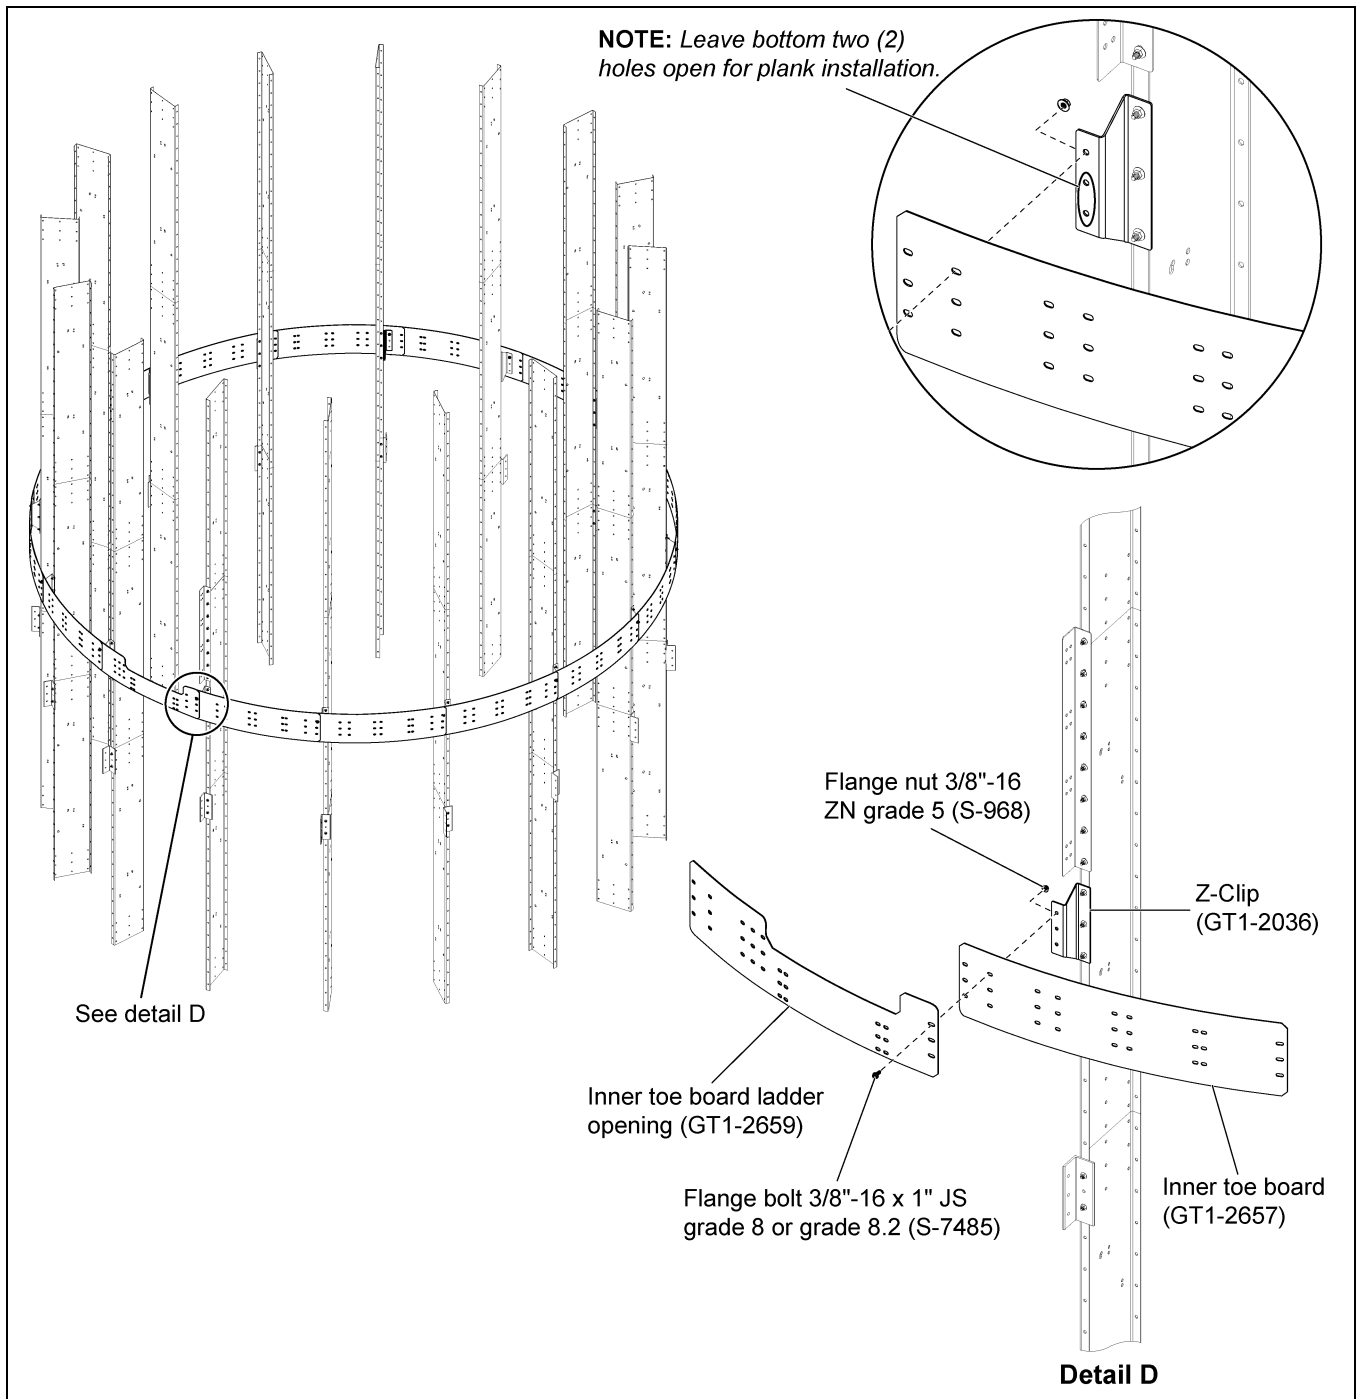
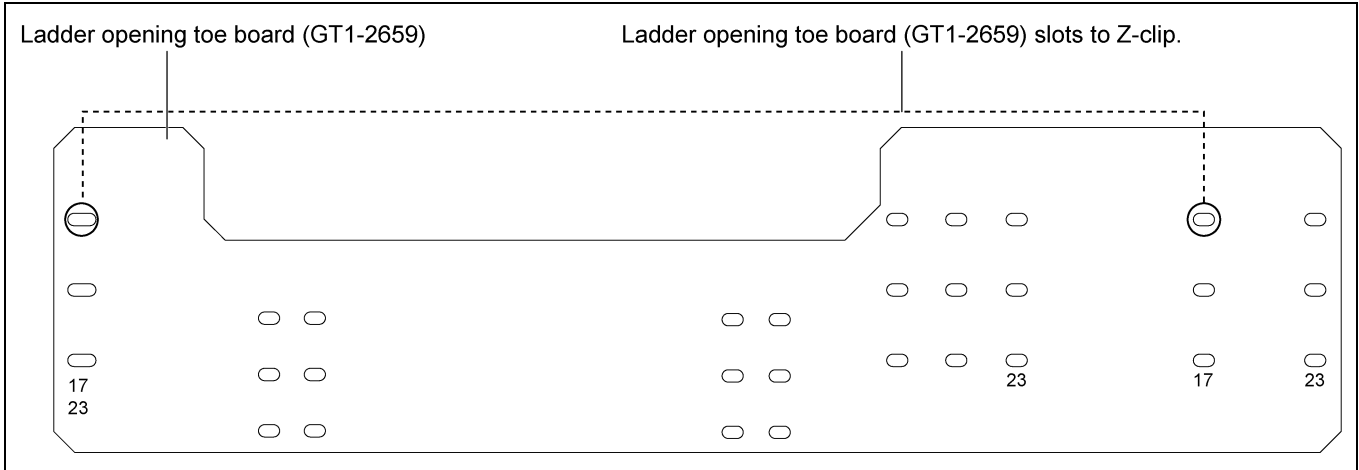

Figure 4G
Figure 4H 17' Ladder Opening Toe Board (GT1-2659)
1. Install the inner toe board (GT1-2657) to the Z-clips (GT1-2036). All toe boards should be installed between the Z-clips using 3/8"-16 x 1" JS grade 8 or grade 8.2 bolts (S-7485) and 3/8"-16 ZN grade 5 nuts (S-968). (See Figure 4G.)
2. At the ladder location, install the ladder opening toe board (GT1-2659) to Z-clips using 3/8"-16 x 1" JS grade 8 or grade 8.2 bolts (S-7485) and 3/8"-16 ZN grade 5 nuts (S-968) in such a way that toe board opening falls on the ladder path. (See Figure 4G below and Figure 4H on Page 20.)